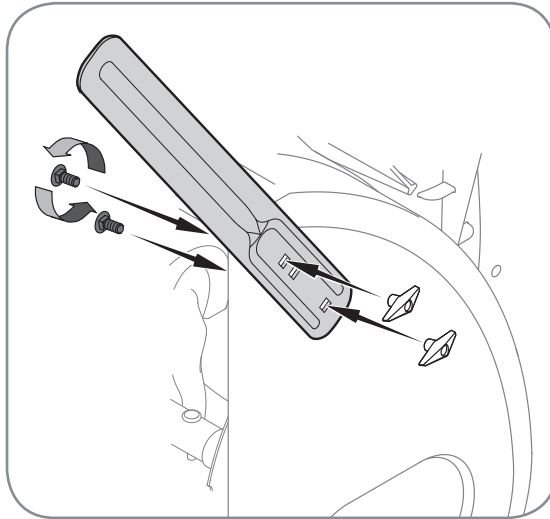

Figure 3-8
- Reposition drift cutters so they face forward as shown in Figure 3-8. Secure with hardware previously removed, wingnuts should be fastened on the **outside** of the housing as shown.